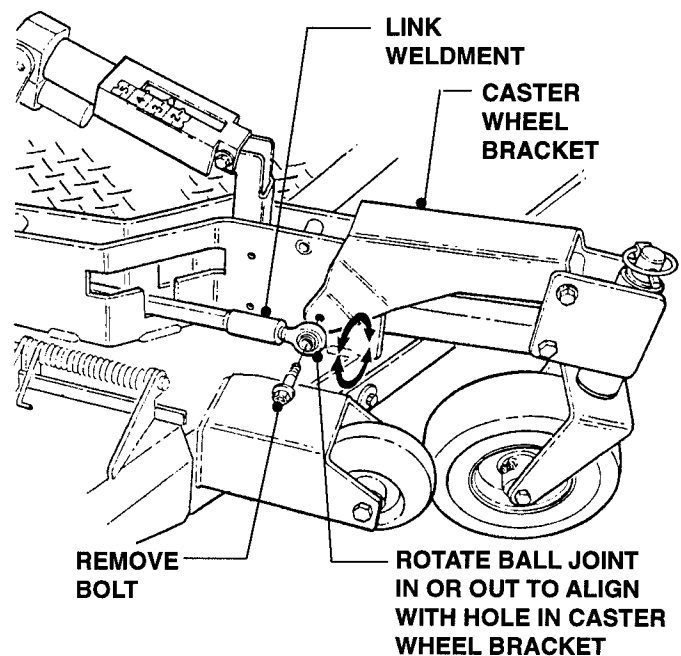

FIGURE 8.9
6. Remove both Bolts (one from each side) from the front portion of the Link Weldment. See Figure 8.9. The Front Caster Wheel will then drop to the ground.
7. Turn Ball Joint in or out until Ball Joint Anchor Hole aligns with Mounting Hole. Reinstall Bolt and tighten securely. Use same procedure on other Caster Wheel. (Refer to Figure 8.9).